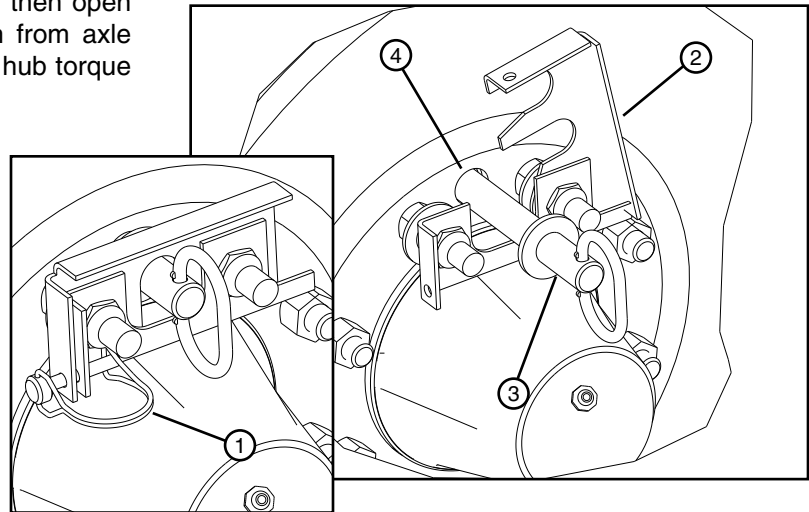

Figure 59-1 1. Lynch Pin 2. Retainer Clip 3. Torque Pin 4. Hub Torque Pin Receiver
5. Remove lynch pin from retainer clip, then open retainer clip and pull the torque pin from axle torque arm behind gearbox hub and hub torque pin receiver. See figure 59-1.